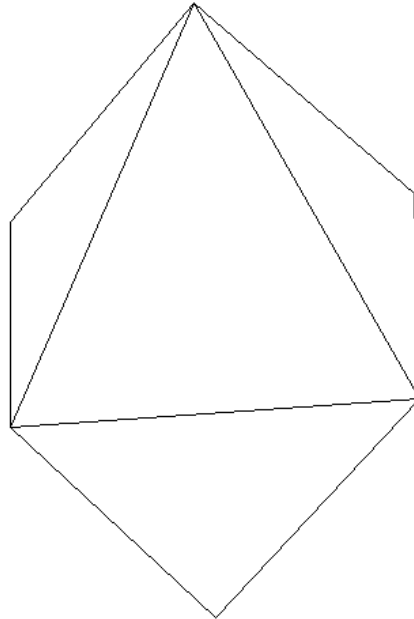
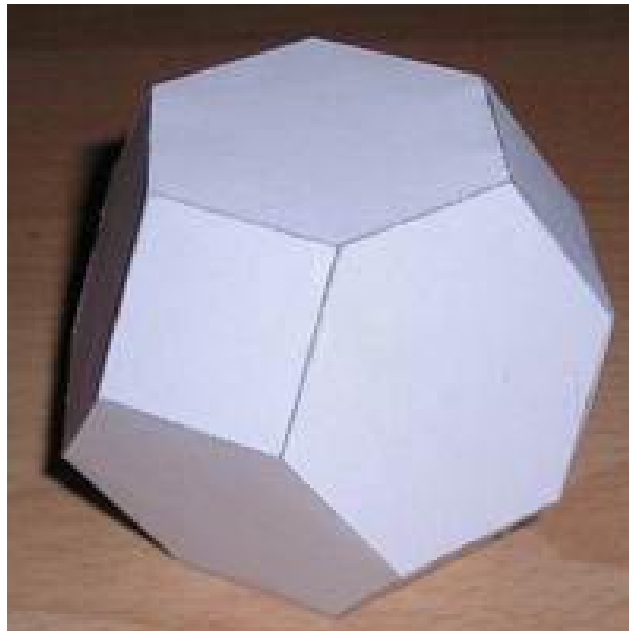

Figure 9.5
Figure 9.6
1. In similar fashion, cutting off the 8 vertices of the octahedron (**Figure 9.5**) will result in its truncated version, the truncated octahedron (**Figure 9.6**).